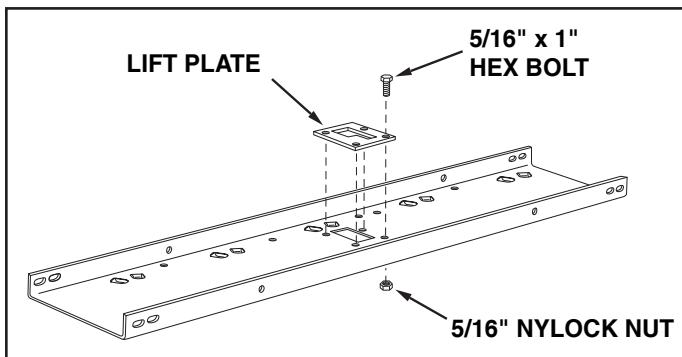

FIGURE 1
1. Assemble the lift plate to the top of the tine shield using four 5/16" x 1" hex bolts and 5/16" nylock nuts as shown in figure 1. **Tighten**.